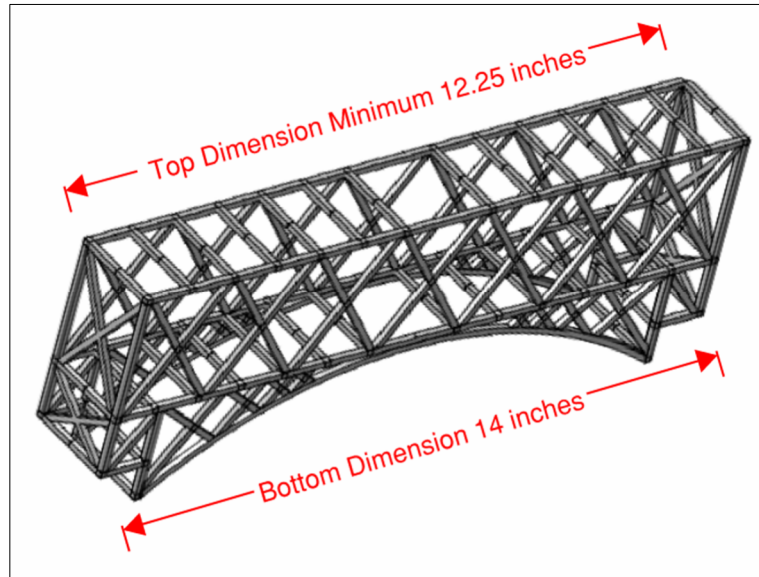

Figure 8. Acceptable Top of Bridge Dimension
**NOTE: For deck arch truss bridges (9th and 10th grade):** The top dimension of the bridge must not be significantly smaller than the bottom dimension of the bridge. Specifically, the top portion of the bridge, where the 2-inch x 2-inch wooden block will be placed for loading, shall have a minimum dimension of 12.25 inches. See Figures 8 & 9 for more details.